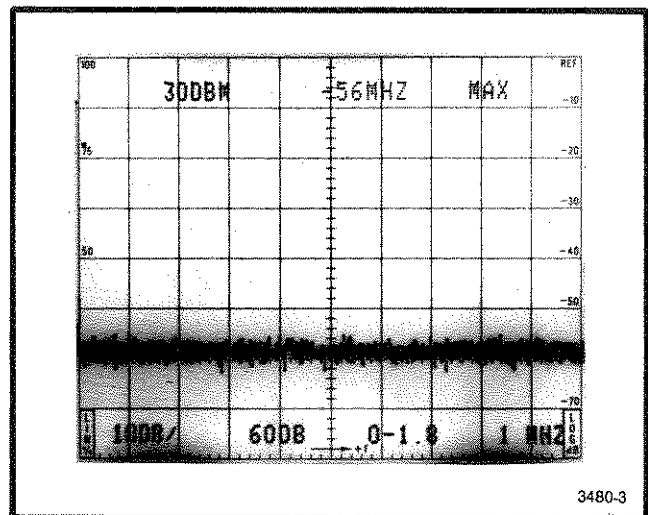

Fig. 3-3. Crt readout for power-up state.
- a. Connect the 496/496P power cord to an appropriate power source (see Power Requirements under Installation Instructions) and switch POWER on. Allow three to four minutes for the instrument to warm up and stabilize before proceeding. Note that the crt readout is functioning (see Fig. 3-3).